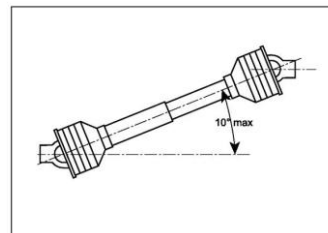

Figure 5
- By using hydraulics, carefully lift the mulcher so that the angle of breaking of the cardan shaft is not too large (never larger than 10°, Figure 5). When you lifted the tool to the highest position in this way, check the following: